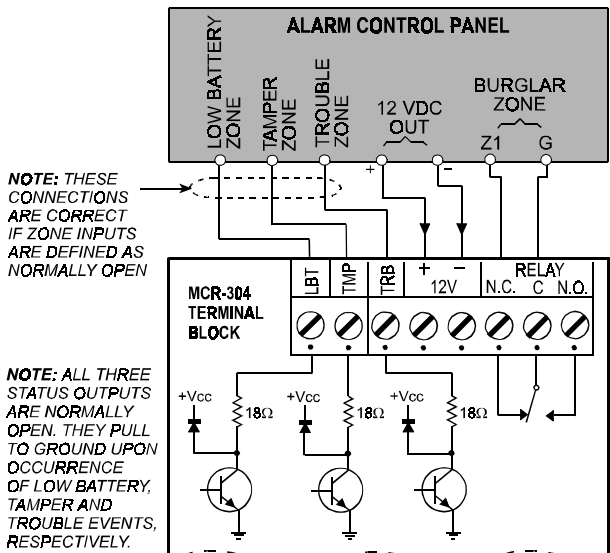

Figure 5. General Wiring Diagram
- If you wish to separate between status alerts, connect each status outputs of the MCR-304 (TAMP, LBT and TRB) to a separate zone input of the control panel, as shown in Figure 5.